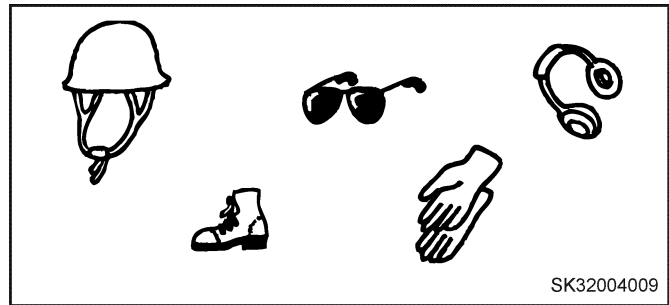

FIGURE 4.5A
J. Wear Safety Equipment– FIGURE 4.5A